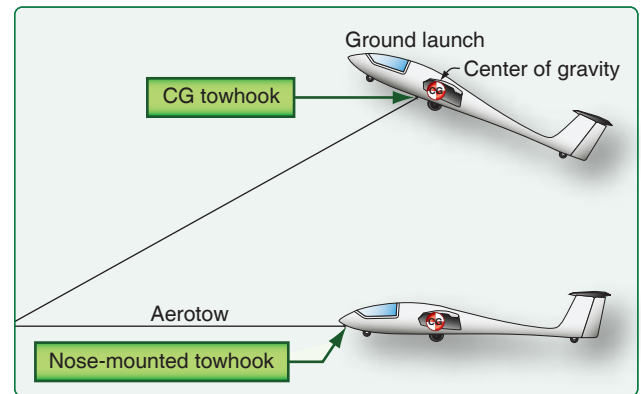

Figure 2-14. Towhook locations.
The glider may have a towhook located on or under the nose and/or under the center of gravity (CG), near the main landing gear. The forward towhook is used for aerotow. The CG hook is used for ground launch. A glider with only a CG hook may be approved for aerotow in accordance with the Glider Flight Manual/Pilot's Operating Handbook. [Figure 2-14]